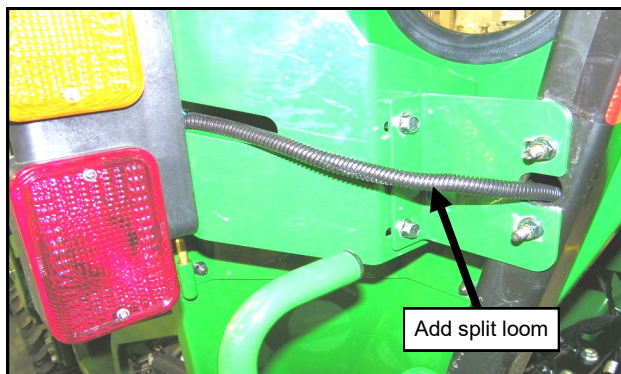

Fig. 18.2 (Assemble OEM Side Lights to Cab)
- 18.2** Cut the supplied longer, smaller segment of split loom approximately in half and wrap the exposed rear light wires with the split loom. See Figure 18.2